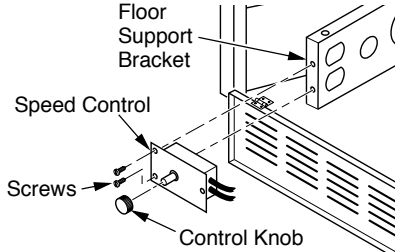

Figure 20 - Attaching Speed Control
- Place control knob provided on plastic control shaft of speed control (see Figure 20).
- Mount the speed control onto the front leg of the left floor support bracket using 2 screws provided (see Figure 20).